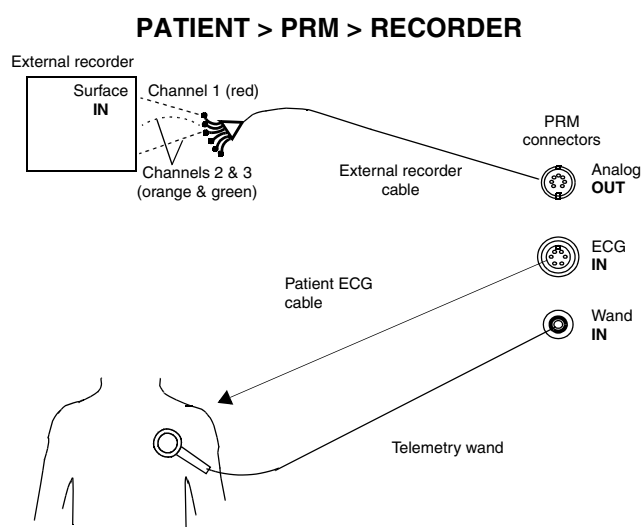

Figure B-4. PRM receives surface signal via the patient cable and then sends surface and telemetered channels to the external strip chart recorder.
- Patient to PRM to external recorder (Figure B-4 on page B-4)
To display a tracing on the PRM and an external strip chart recorder using the patient ECG cables, set up equipment as shown in Figure B-4.